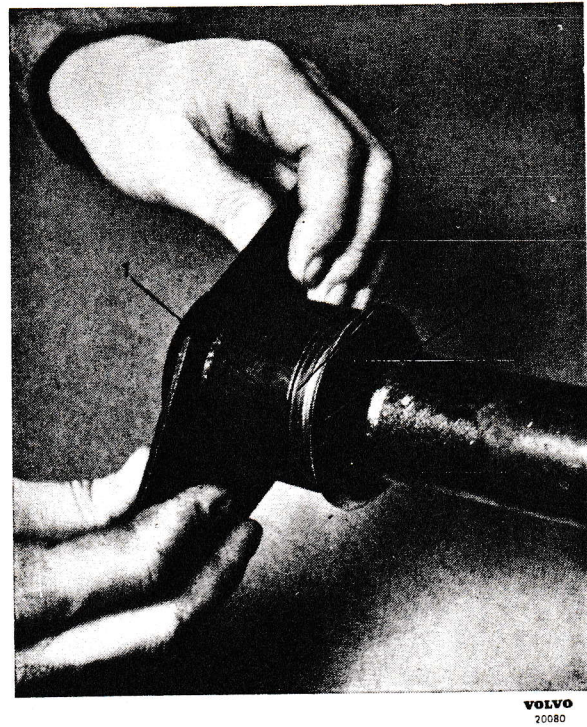
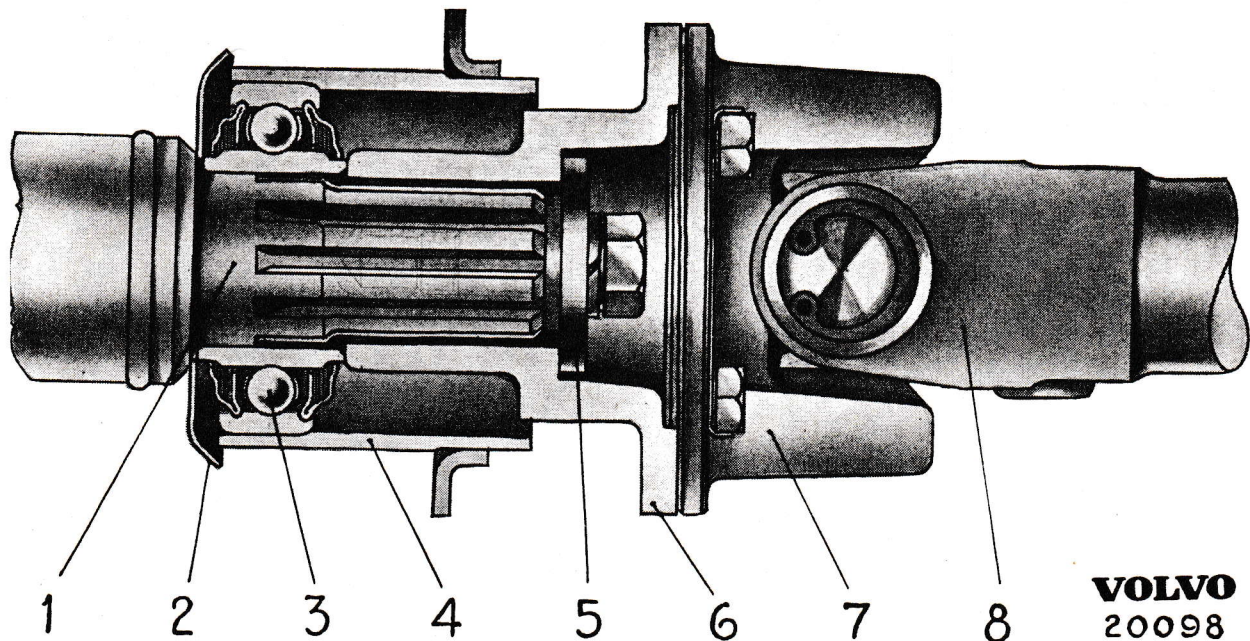

Fig. 14. Assembling bearing case.
Fig. 15. Bearing case with bearing.
2. Fit splash cap (3, fig. 14).
3. Push on bearing case (1) with bearing (2).
4. Push on companion flange sleeve (6, fig. 15) and check that the holes in companion flange sleeve are placed exactly opposite the holes in companion flange on gearbox main-shaft. Use driver SVO 4034.